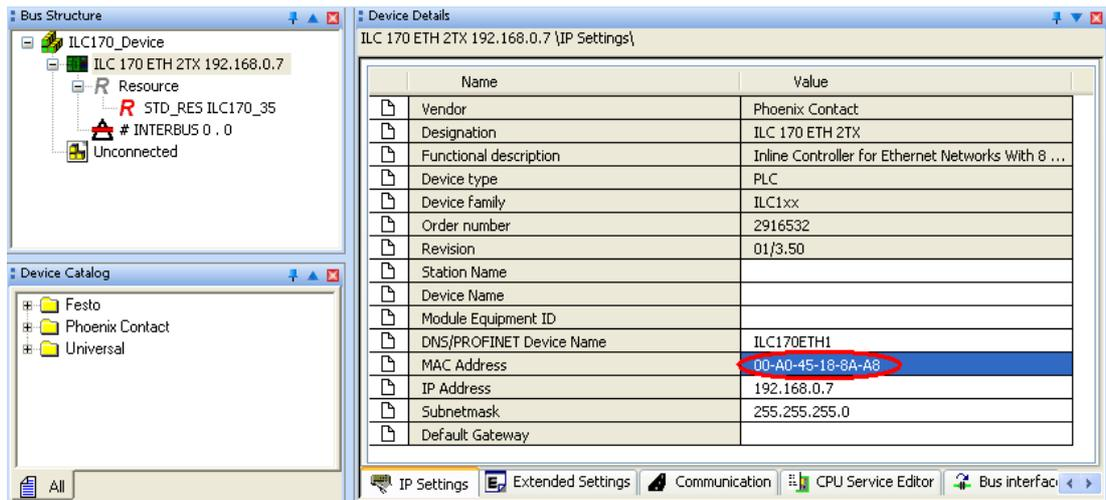

Figure 4-37 Entering the IP address
- Switch to the bus configuration workspace, see Figure 4-37